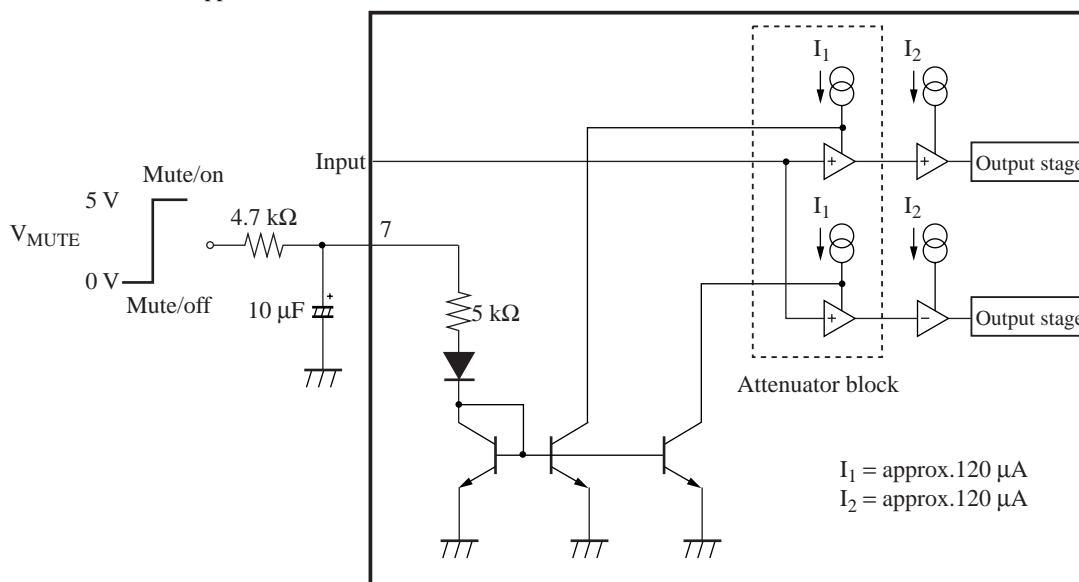

Figure 7
- 2) The muting circuit is as shown in figure 7. The amplifier gain including attenuator block is given in the following equation :
- 4) Attack time and recovery time can be changed by the external CR of pin 7. For recommended circuits (In figure 7 4.7 kΩ, 10 μF), the above mentioned times are as follows :